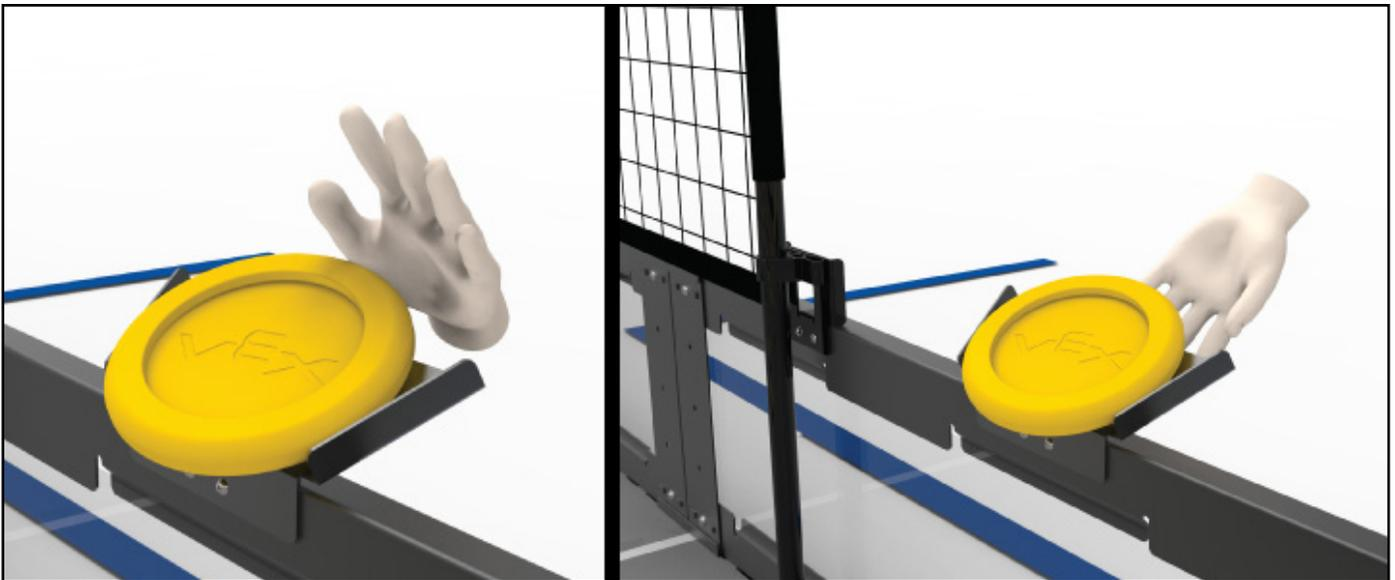

Figure 22: Recommended safe methods for introducing Discs through the Loader
- b. *Match Load Discs* must be introduced by a *Drive Team Member* placing them gently onto a *Loader*. They may then be retrieved from the *Loader* by a *Robot*, or gently pushed into the field by a *Drive Team Member*. See Figure 22 for examples of how *Match Load Discs* should be introduced.